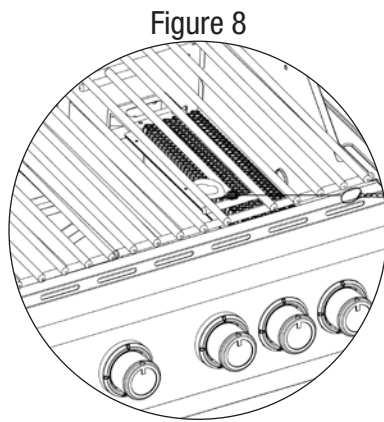

Figure 8
3. Infrared sear burner control knob must be in the 🔻 (OFF) position. (Figure 8)
7. If igniter does not light burner, use a lit match secured with the lighting rod provided to light burners manually. Access the burners through the cooking grid. Position the lit match near side of the burner. (Figure 8)
3. Infrared back burner control knob must be in the 🔻 (OFF) position. (Figure 8)